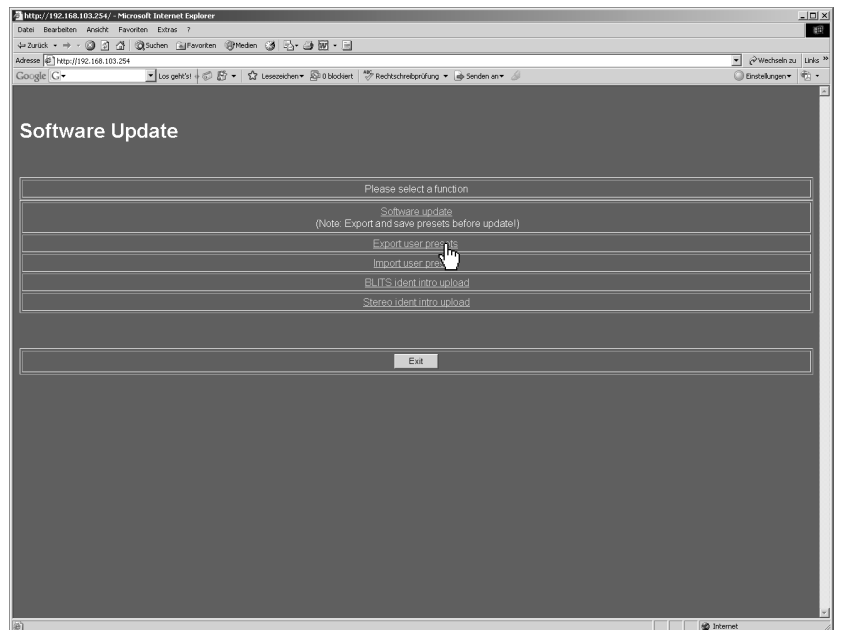
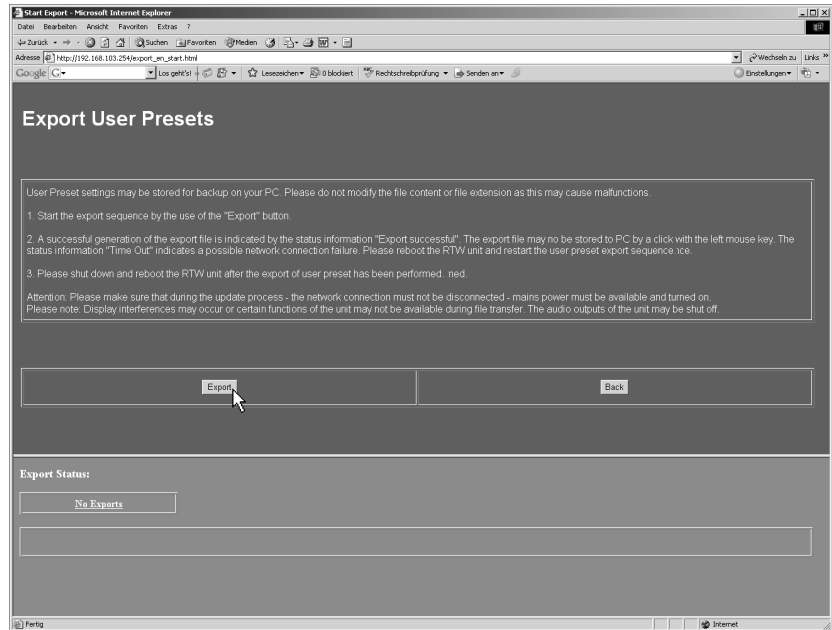
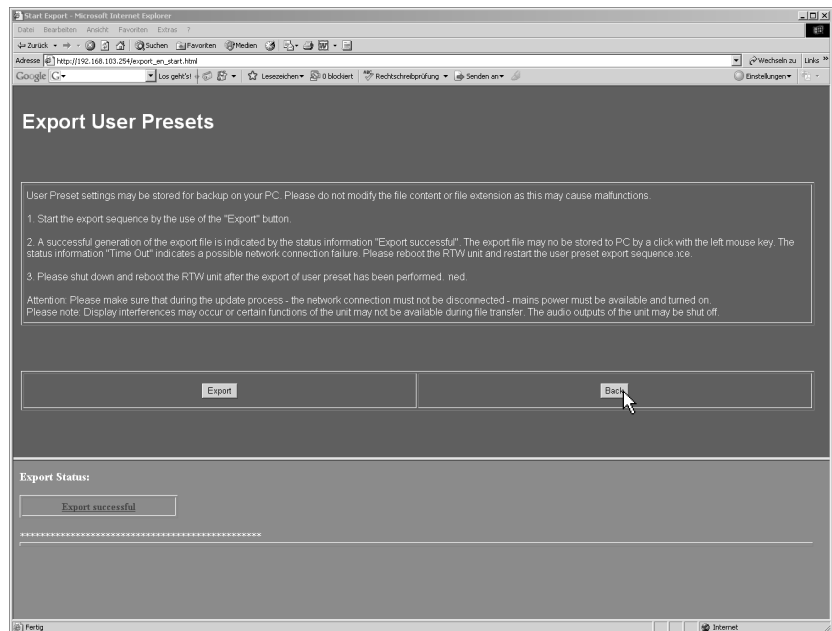

Fig. 8-12: Software Update Program menu in web browser
Fig. 8-13: Display of the Export menu page
Fig. 8-18: End of the export progress
2. The SurroundControl units should respond with a screen like the one shown in Fig. 8-12. Choose **Export user presets**. **Please note the instructions on the Export menu page** (see Fig. 8-13).
3. Please click the **Export** button (see Fig. 8-13).
- When saving the file was successful please click the Back button (see Fig. 8-18) to get back to the home page (see Fig. 8-12).
- If you want to leave the update program please click the Exit button (see Fig. 8-12). The SurroundControl units have to be restarted. Please wait approx. 5 s after shut down of the unit before you power it up again.